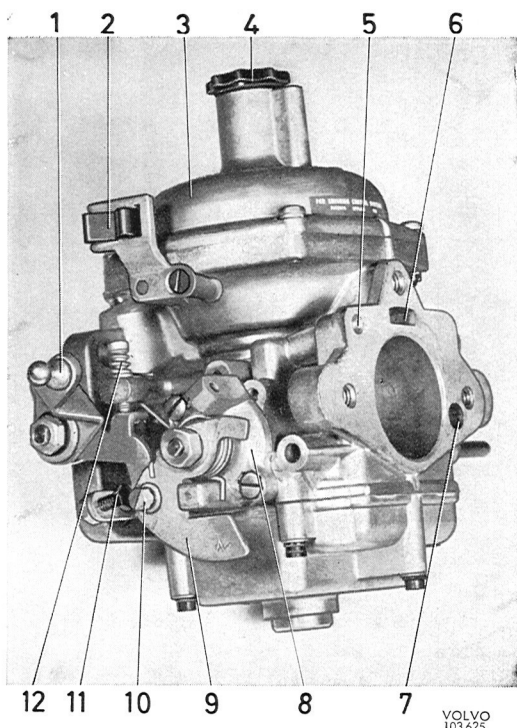
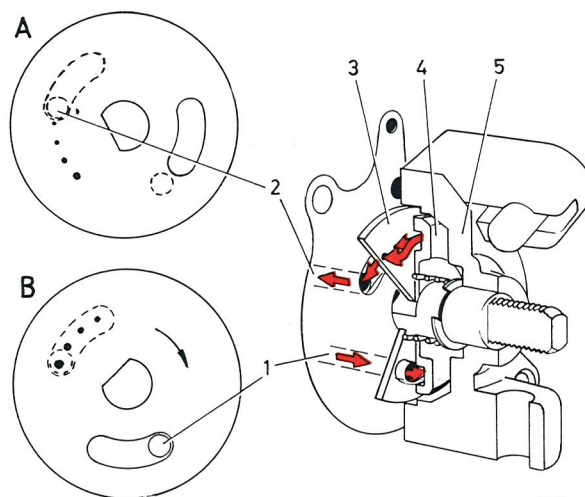

Fig. 2-69. Stromberg carburetor, left side, B 20 A
Fig. 2-76. Cold-start device
The carburetor for the B 20 A engine is shown in Figs. 2-69 and 2-70. It has been designed to obtain cleaner exhaust gases by a gas evaporative control system.
The carburetor is equipped with a cold start device (8, Fig. 2-69) in order to provide the engine with extra fuel for cold starting.
To facilitate starting during cold weather, the carburetor is provided with a cold start device (Figs. 2-76 and 2-77).
The cold start device consists of a choke lever (3, Fig. 2-76) which is provided with four calibrated holes and an elongated opening as well as a channeled disc (4) mounted on a spindle which is operated by the choke control. On the same spindle, outside the housing (5), there is a cam disc (9, Fig. 2-69) with connection for the choke control pull wire. When the cold start device is engaged, the valve disc turns and this links up the channel, (1, Fig. 2-76) from the float chamber via one or several of the calibrated holes to the channel on the other side of the valve disc and further through the drilling in the channel (2), which terminates in the venturi between the vacuum plunger and choke flap. By means of this link-up the engine receives extra fuel (richer mixture) to facilitate cold starting. At the same time, a little extra air is obtained by
means of the choke device. When the choke control is pushed in, the valve disc turns and closes the inlet to the channel. At the same time as the cam disc is operated, the throttle flap opening is also influenced in such a way that turning the cam disc opens the throttle through the fast idle stop screw (11, Fig. 2-69) and the lever, before any of the calibrated holes open the connection to the fuel drilling. With this arrangement, the idling speed can, if necessary, be raised by the driver of the vehicle during the warming-up period of the engine.